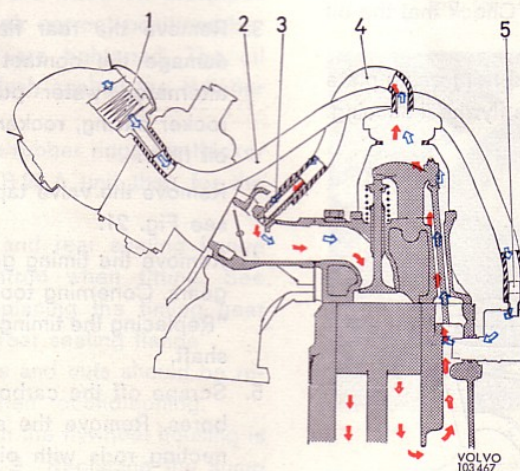

Fig. 19 Positive crankcase ventilation
The residue is blown out through the exhaust pipe together with the other combustion residues. Between the rocker arm casing and the intake manifold there is a hose (4, Fig. 19). It is connected to the intake manifold by means of a calibrated nipple (3). (This nipple should be cleaned every